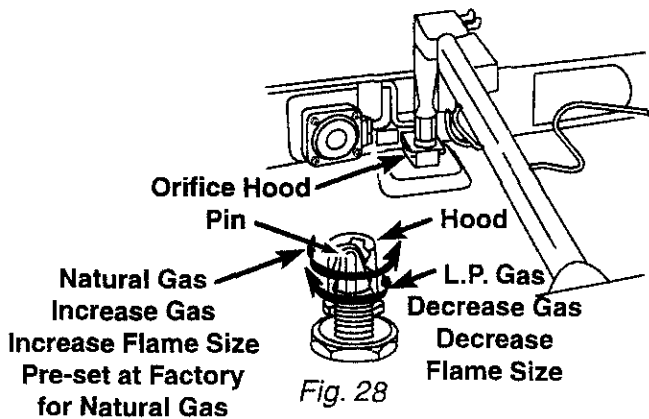

Fig. 28
7. Oven Burner (Fig. 28): Use a ½ inch combination wrench to turn the orifice hood down snug onto pin (approximately 2 to 2-½ turns). DO NOT OVERTIGHTEN the orifice hood. The burner flame cannot be properly adjusted if this conversion is not made.